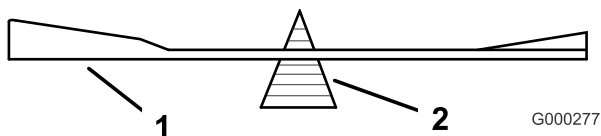
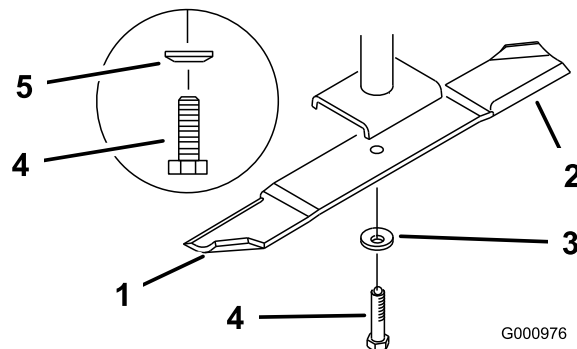

Figure 91
Figure 92
2. Check the balance of the blade by putting it on a blade balancer (Figure 91). If the blade stays in a horizontal position, the blade is balanced and can be used. If the blade is not balanced, file some metal off the end of the sail area only (Figure 92). Repeat this procedure until the blade is balanced.
1. Install the blade onto the spindle shaft (Figure 92).
2. Install the spring disk and blade bolt. The spring disk cone must be installed toward the bolt head (Figure 92). Torque the blade bolt to 85-110 ft-lb (115-150 N-m).